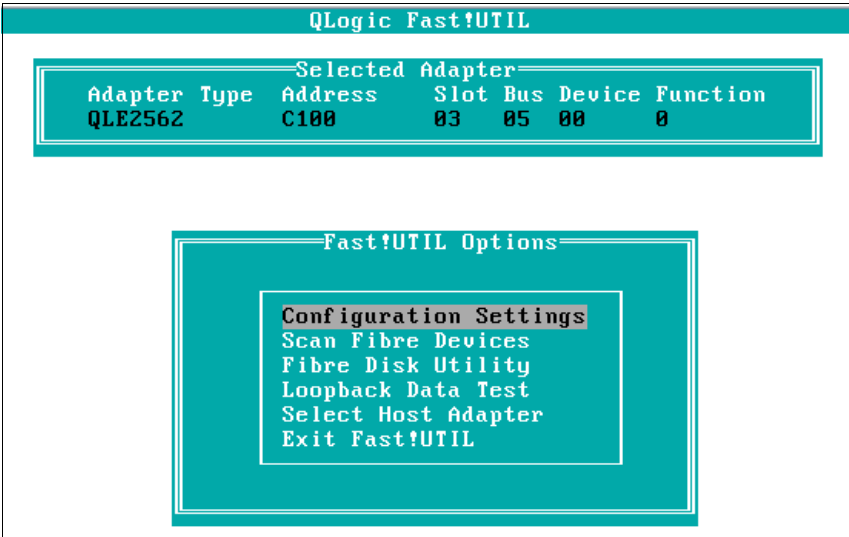

Figure 5-44 Configuration Settings
4. Select **Configuration Settings**, as shown in Figure 5-44.
3. Select **Scan Fibre Devices** from the menu, as shown in Figure 5-44 on page 314.